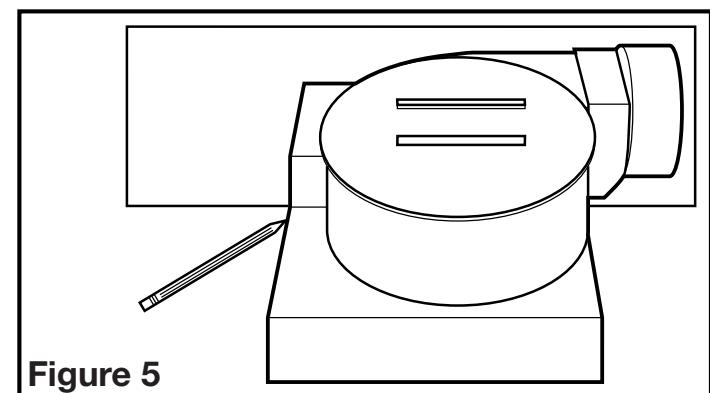

Figure 5
1. Position housing against the joist or stud and trace an outline of the housing onto the ceiling/wall material. Set housing aside and cut opening, being careful not to cut or damage any electrical or other hidden utilities (**Figure 5**).